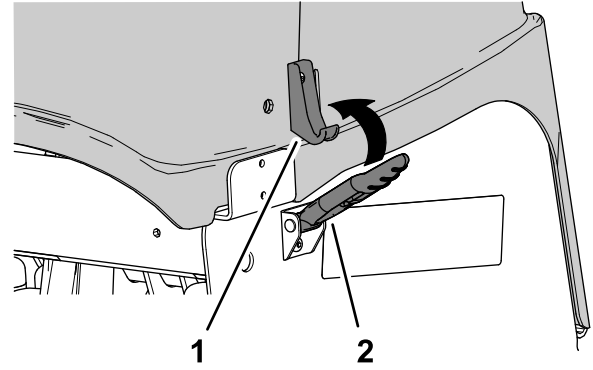

Figure 142
2. Latch the coring head cover at the 4 latch location (Figure 142).